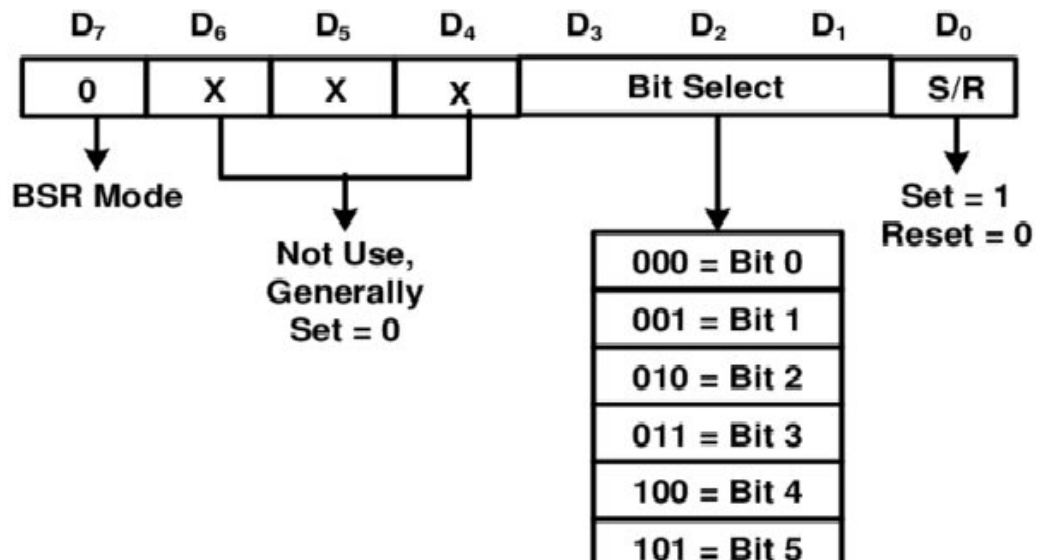

Figure 3.2.3 Control word for BSR Mode
- The control word format of BSR mode is as shown in the Figure 3.2.3 below: